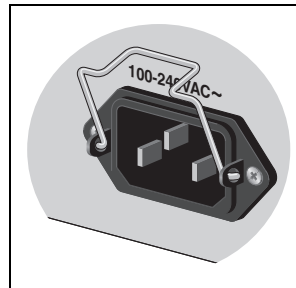

Figure 74. Power Cord Retaining Clip in the Up Position
1. Position the power cord retaining clip in the up position, as shown in Figure 74.